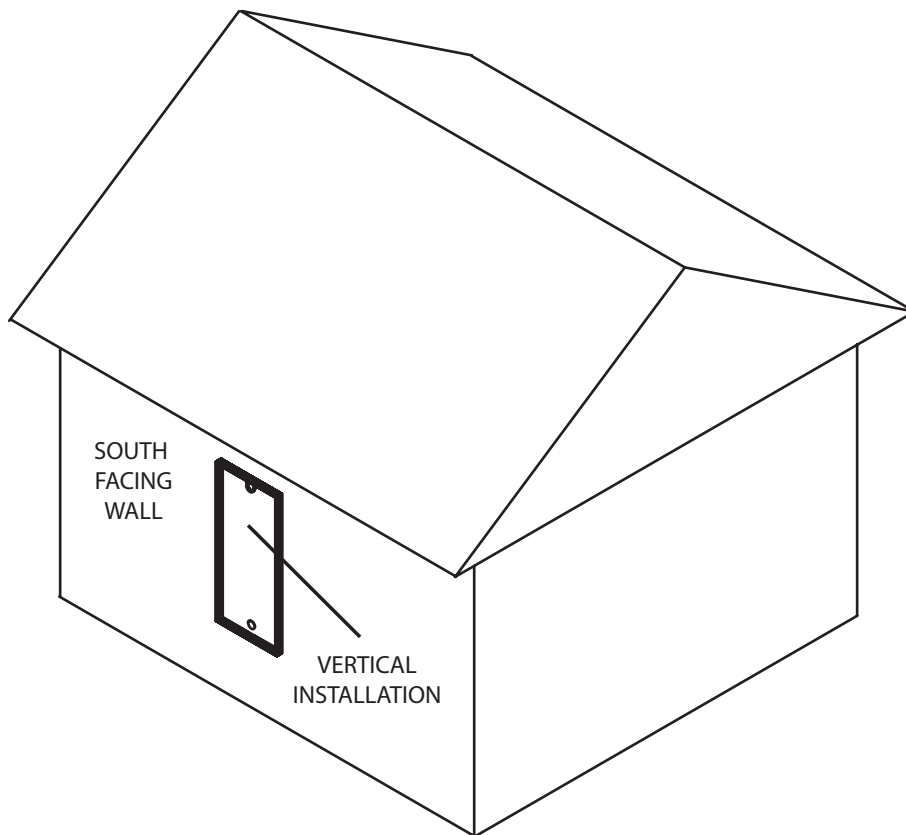

Figure 3. KOZI Solar Hot Air Collector Installation Configurations.
As the sun strikes the solar panel, it heats the absorber plate as well as provide energy for a photo-voltaic (PV) panel to generate electricity to operate a circulation fan. The circulation fan draws the cool room air into the base of the solar hot air collector. As the sun is heating the black absorber material, heat is being transferred from the absorber plate to the air. The air will pass through channels on the back side of the absorber, gathering heat. Once the air reaches the top of the collector, this air becomes hot and is pushed through an outlet duct and into the room. Figure 3 shows a typical, vertical installation for a **KOZI** Solar Hot Air Collector.